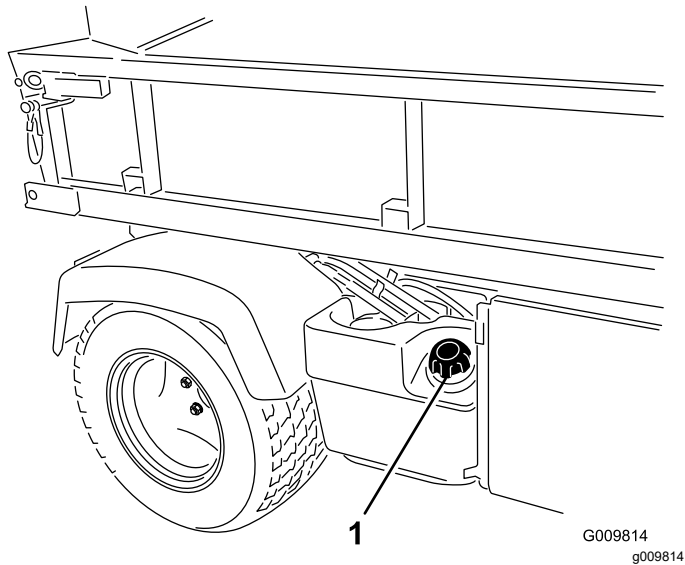

Figure 18
2. Remove the fuel-tank cap (Figure 18).